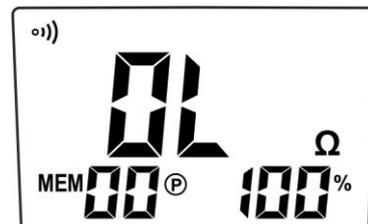

Fig. 5
4. At the end of the switching-on sequence, under normal operating conditions, the screen in Fig. 5 appears on the display, associated with a continuous sound.